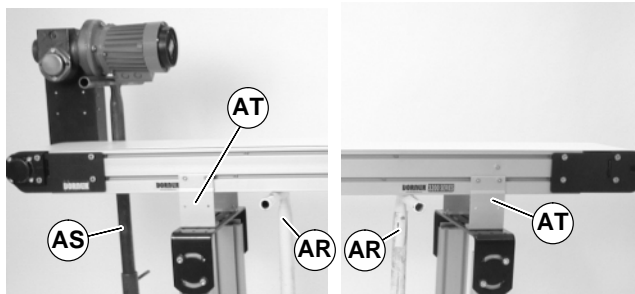

Figure 21
- Place temporary support stands (AR of Figure 21) at both ends of the conveyor. Place an additional support stand under the drive motor (AS), if equipped. See WARNING.
- Remove mounting brackets (AT of Figure 21) from one side of conveyor. (Reverse steps 3 & 4 of "Mounting Brackets" section on page 6).
1. Ensure temporary support stands (AR of Figure 21) are placed at both ends of the conveyor. Place an additional support stand under the drive motor (AS), if equipped. See **WARNING**.